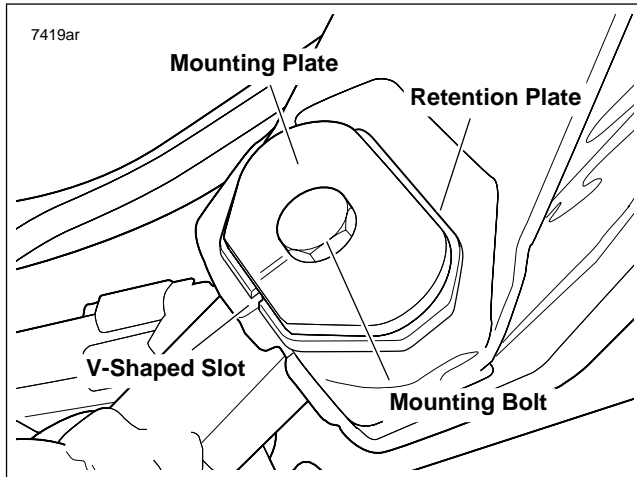

Figure 4. Final Assembly
8. See Figures 4 and 5. Place the remaining retention plate and mounting plate in position on top of the fuel tank rear mounting projections. Make sure shorter straight side of both retention plate and mounting plate face to rear of vehicle.